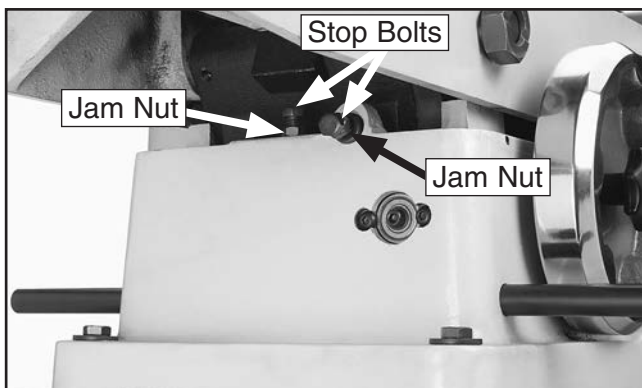

Figure 44. Outfeed table positive stop bolts.
4. Loosen the outfeed table lock located at the front of the machine, then loosen the jam nuts and positive stop bolts located under the outfeed table (see **Figure 44**).